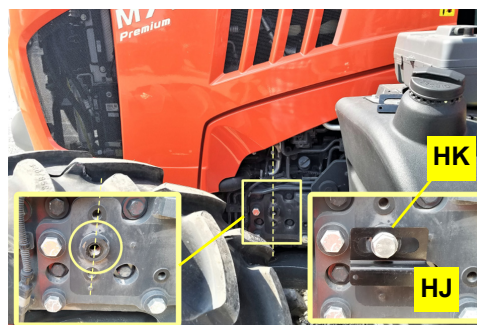
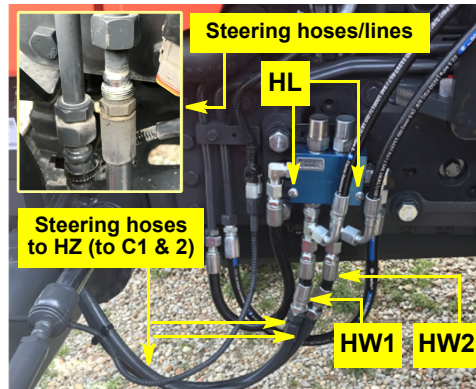

Figure 7b: CBV mounting bracket installation
Figure 7c: Steering lines and CBV installed - connections 1
- b. At the front left side of the machine, near the (steel) steering line to (rubber) hose connections (Figure 7c inset, next page), identify the middle ('bossed') hole of three in a vertical line in the machine's chassis (Figure 7b, main and left inset). Using hardware **HK**, attach CBV mounting bracket **HJ** to the machine (Figure 7b, right inset).
- c. Using hardware **HL**, attach **HF** to its mounting bracket (Figure 7c).
- d. Disconnect the nearby steering hoses from the vertical steering lines from the orbital steering valve (Figure 7c inset).
- e. Using short hoses **HW1** and **HW2**, extend the machine's steering hoses to connect them to the open T end of run tees **HI** in the C ports of the CBV (Figure 7c).